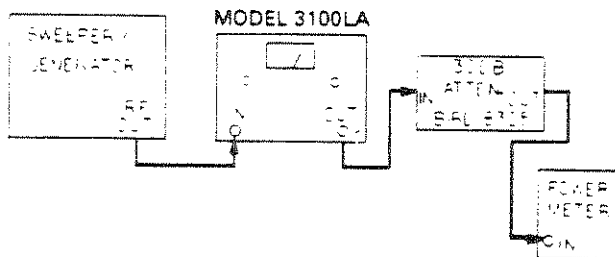

Figure 5-2. RF Output Power Test Set-Up
- a. Set-up the test equipment as shown in Figure 5-2.
- a. Set up the test equipment as shown in Figure 5-2 for RF power output test.